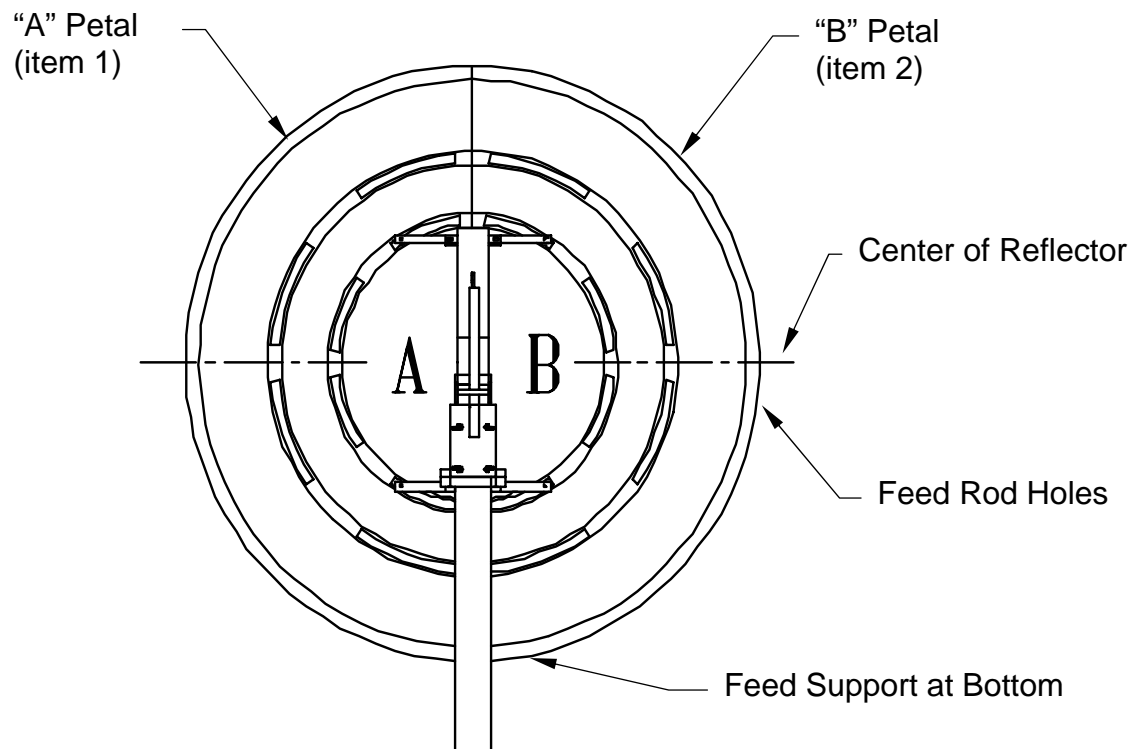

Figure 1
The series 1250 reflector petals are labeled “A” and “B”. In the standard upright position, the antenna elevation angle range is between 5 and 90 degrees. When viewed from behind in the standard position (feed support at the bottom), the “A” petal (item 1) is on the left side and the “B” petal (item 2) is on the right side – See Fig. 1.